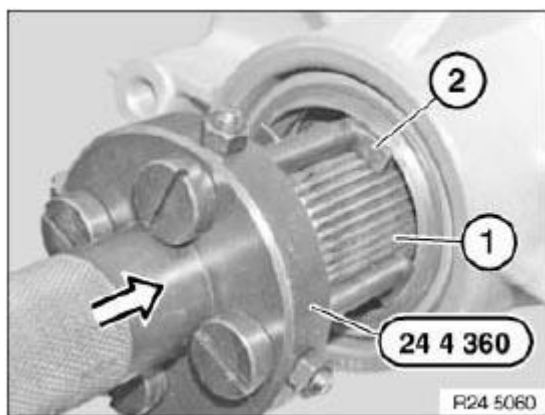

Fig. 36: Identifying Special Tools (24 4 360) And Hooks
Push special tool **24 4 360** onto output shaft (1). See **Fig. 36**.